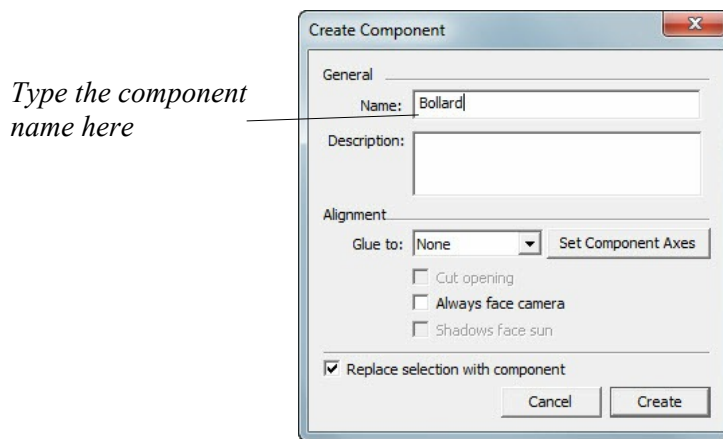

Figure 89. The Create Component dialog box
- Select **EDIT/Make Component** and the Create Component dialogue box will appear as shown in Figure 89.